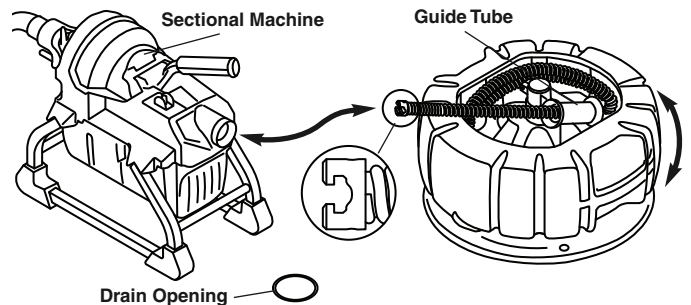

Figure 4 – Using the Cable Carrier
2. Place near drain cleaner to allow convenient access for the operator for loading and unloading of cable sections, see Figure 4.